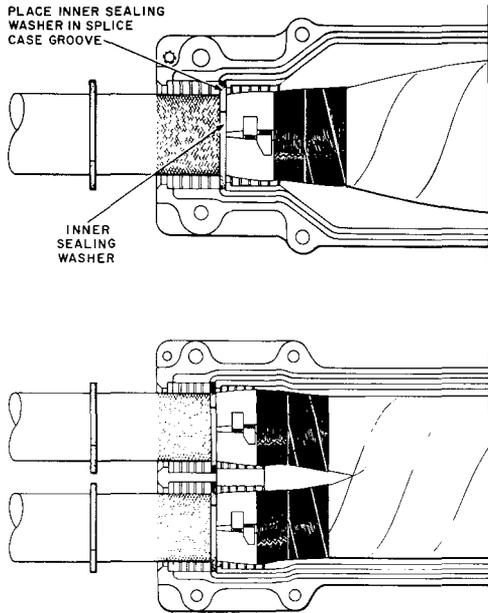

Fig. 20—Inner Sealing Washers Placed
3.17 Position the cable in the splice case and slide the inner sealing washers in place as shown in Fig. 20. Mark the position of the washers on the jacket. Make sure that the sheath clamps are aligned with the grooved seat of the splice case.